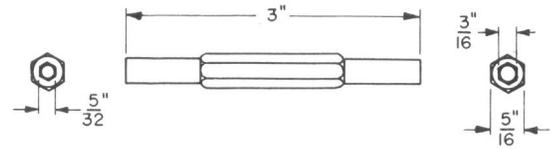

Fig. 11—403A Hex, Double-End Socket Wrench
2.11 403A: The 403A tool (Fig. 11) is equipped with a 5/32-inch socket and a 3/16-inch socket. The 403A tool forms a part of the 72 tool.